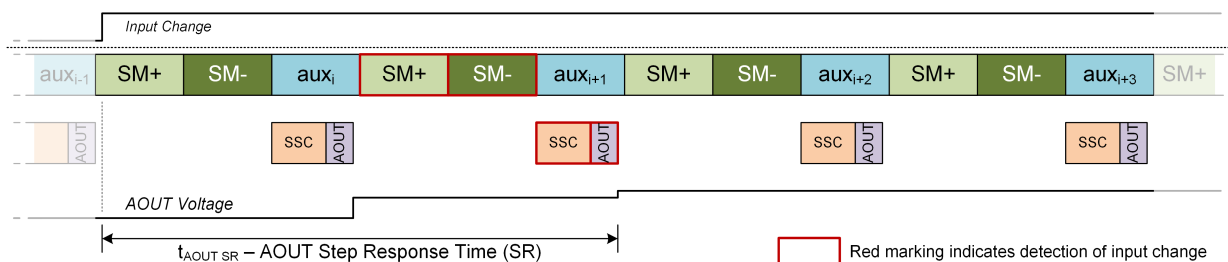

Figure 24: SM+/SM- Step Response
For SM+/SM- configuration the worst-case step response is shown in Figure 24 and consists of:
- SM+/SM- configuration: refer to Figure 24 and description for step response in subsection 4.7.3